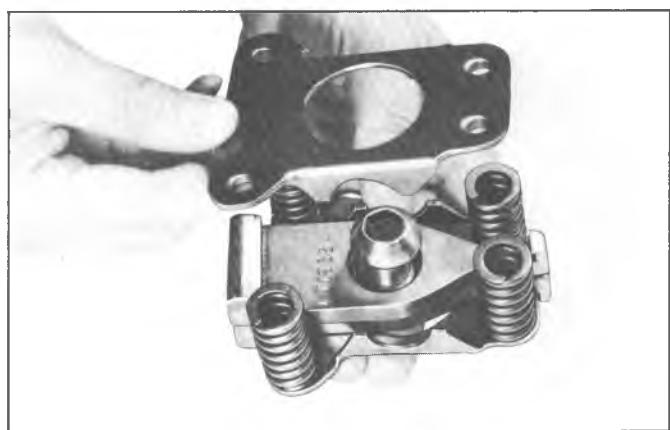

Fig. 13D—Installing Spring Pack Compression Tool (Corvette)
17. **On Corvette**, install Tool J-22311 to compress clutch pack, secure pack with 1/4" bolts as shown in Figure 13D. Partially install pack then remove bolts and complete pack installation. Remove tool.